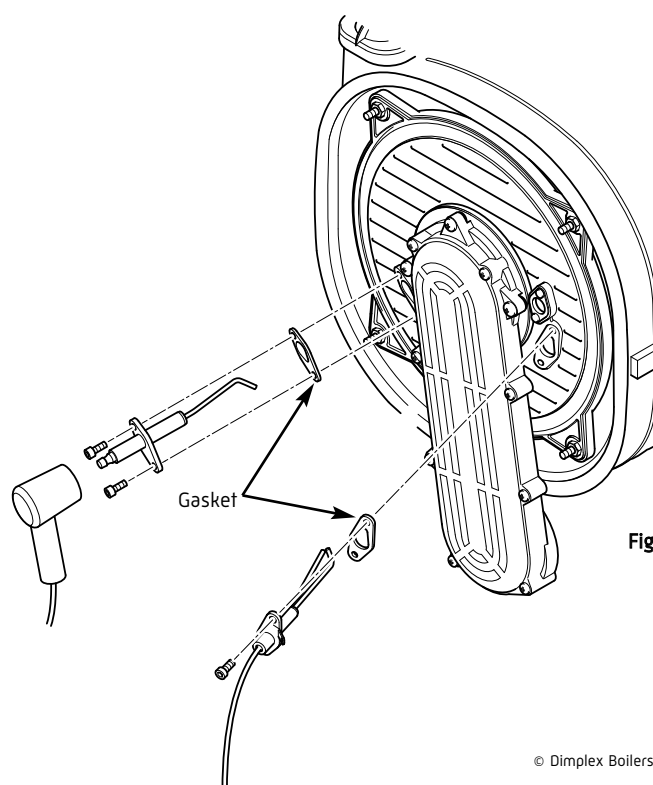

Fig. 56
1. Disconnect the electrode leads, noting their positions (Fig. 56).